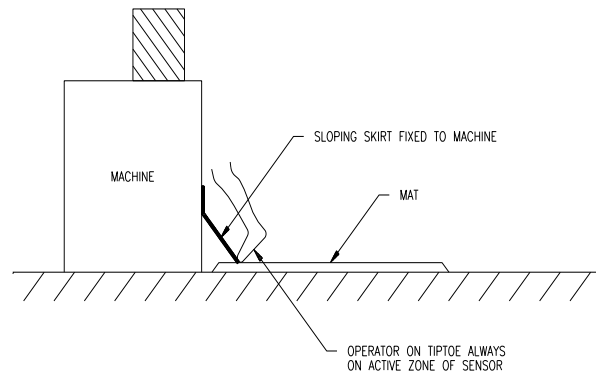

Figure 6 - Ensure Operator is Always Standing on Active Area of Sensor
- (e) Steps must be taken to prevent a person from standing in the dangerous area without standing on the mat. The inner surfaces of fixed mechanical fencing should be designed such that there are no ledges or steps on which a person could stand and thereby avoid the mat. It may be necessary to fit additional mechanical barriers, covers etc. to cover any surfaces within the dangerous area on which a person could stand, such as the feet of the machine. Particular attention should be paid to the edge of the mat nearest to the machine. Ensure that a person tip-toeing at the front of the machine will still be standing on the active area of the mat. See **Figure 6**.